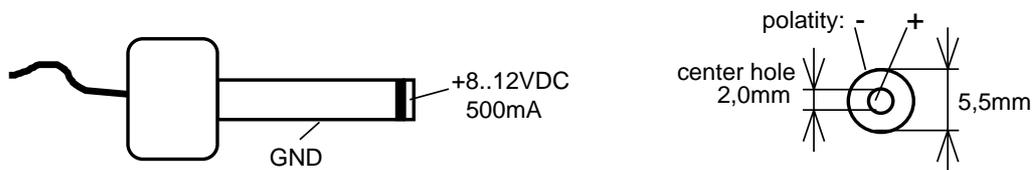

Figure 5: The Power Plug
- Attach a power supply to the power connector X5. An unregulated 8 V= to 12 V=/500 mA power source can be used to supply the board. Use only a fixed voltage power supply and no power supply with variable voltage. Double check the correct polarity of the plug as shown in *Figure 5*. If the power supply is attached correctly the red LED D4 will light up.
- Attach a power supply to the power connector X5. An unregulated 8 V= to 12 V=/500 mA power source can be used to supply the board. Use only a fixed voltage power supply and no power supply with variable voltage. Double check the correct polarity of the plug as shown in *Figure 5.* If the power supply is attached correctly the red LED D4 will light up.